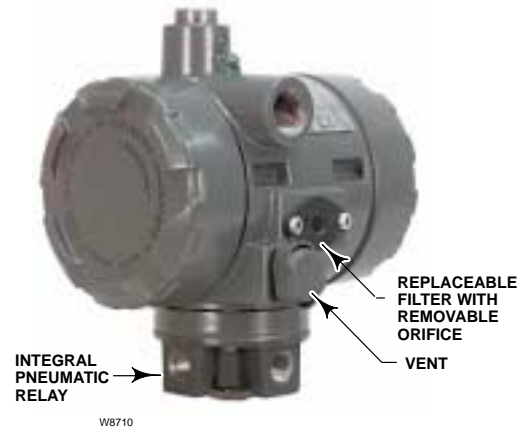

Figure 1. Type i2P-100 Electro-Pneumatic Transducer
The Type i2P-100 electro-pneumatic transducer, shown in figure 1 uses a patented converter module that converts a milliampere input to a proportional pressure output. Both the current input and pressure output range are user-configurable in the field. The converter module uses small parts of minimum mass, which are balanced symmetrically around a pivot point at the center of the mass. This balanced arrangement results in a high performance instrument that reduces sensitivity to vibration.
- **Tolerant of Dirty Supply Medium**—Free-flow pilot stage design and large internal air passages provide excellent tolerance to dirty pneumatic supply, by reducing the effects of contaminant buildup and erosion. The removable primary orifice and and replaceable 5 micron filter are easy to remove for service and maintenance (see figure 1).